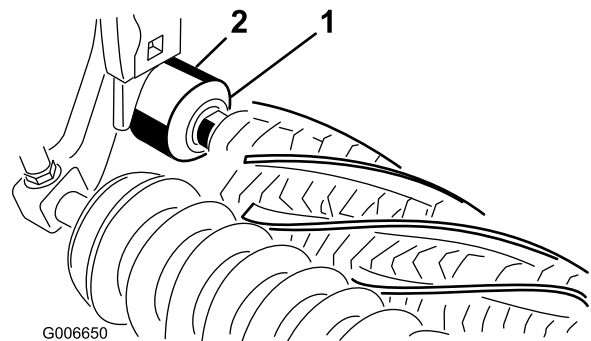

Figure 10
19. Make sure the seal lip on each excluder seal, is in light contact with each bearing housing (Figure 10).